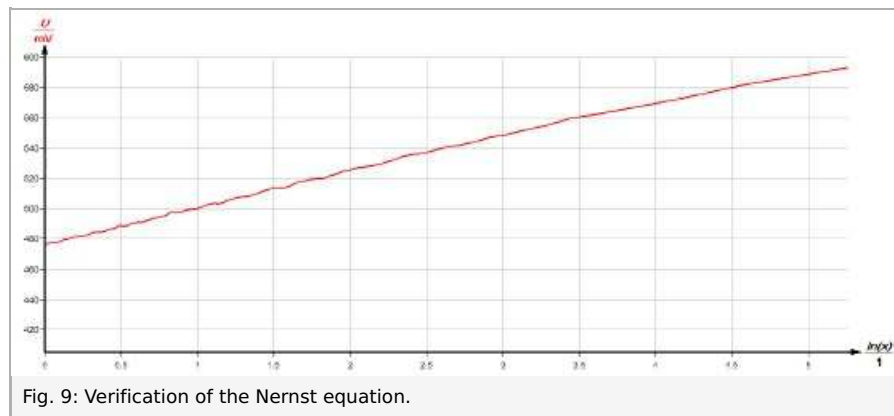

Fig. 9: Verification of the Nernst equation.
- Fig. 9 shows the resulting plot.